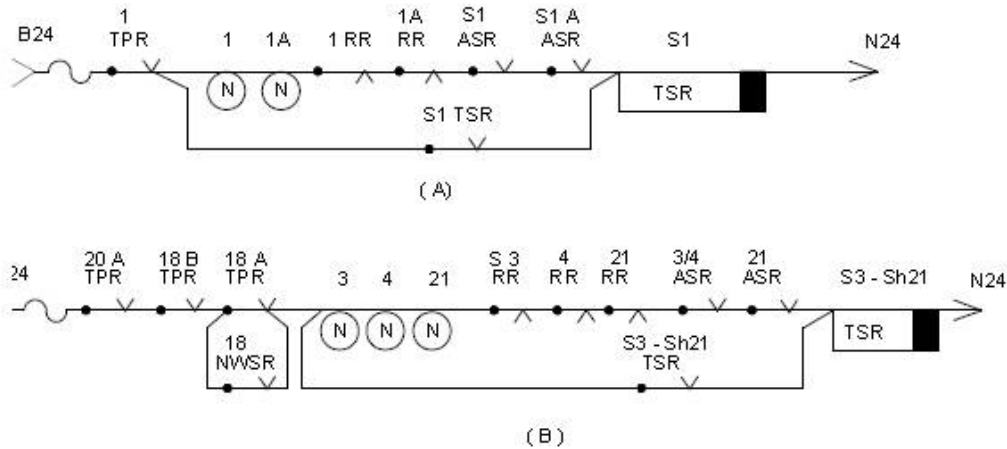

Fig. A.3
Fig. A.3 (A) & (B) are combined TSR circuits with separate switches for signals. It may be noted that the track circuit immediately after the signal or nearest common TC must be taken to replace the signal soon after the train passes. Hence in big yards where it is not possible, separate TSR may be made.